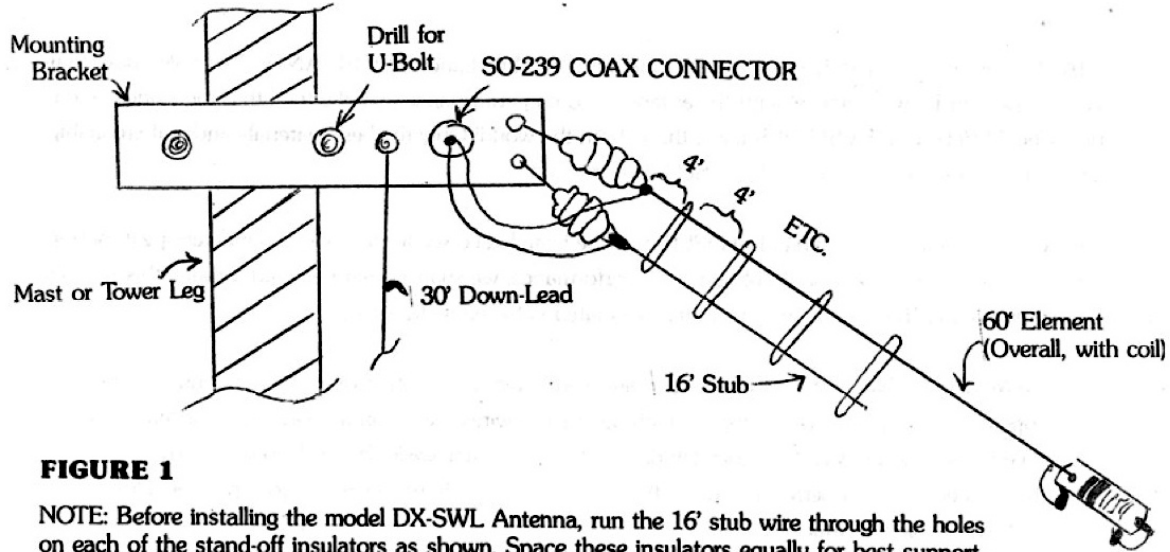

FIGURE 1
Please study the graphics on FIGURES 1 and 2, and read the written instructions for the installation procedure before beginning your assembly and installation.
1. Unroll the sloper wire elements, removing any kinks that may have been induced in packing or shipping. For the **Model DX-SWL** you will find one wire element approximately 60 ft. long with two "ISO-RES" (tm) inductors installed, one 16 ft. stub wire to be threaded through the installed pre-drilled stand-offs, and a 30 ft. "down lead" wire which will be run down the support as shown. **Refer to FIG. 1** for assembly. The Model **DX-SWL-S** is the same but eliminates Element C and the last coil and is just 40 ft. long. It is for restricted space applications and covers 90 through 13 meters, with the same performance across those ranges as the longer **Model DX-SWL**.
2. **Refer to FIG. 1.** For tower leg or mast mounting, the aluminum mounting bracket will have to be drilled to accept a U-Bolt, user supplied. One hole already exists on the mounting bracket. For other installation types, simply attach a rope through the existing bracket hole, with the other end of the rope attached to your mounting point.